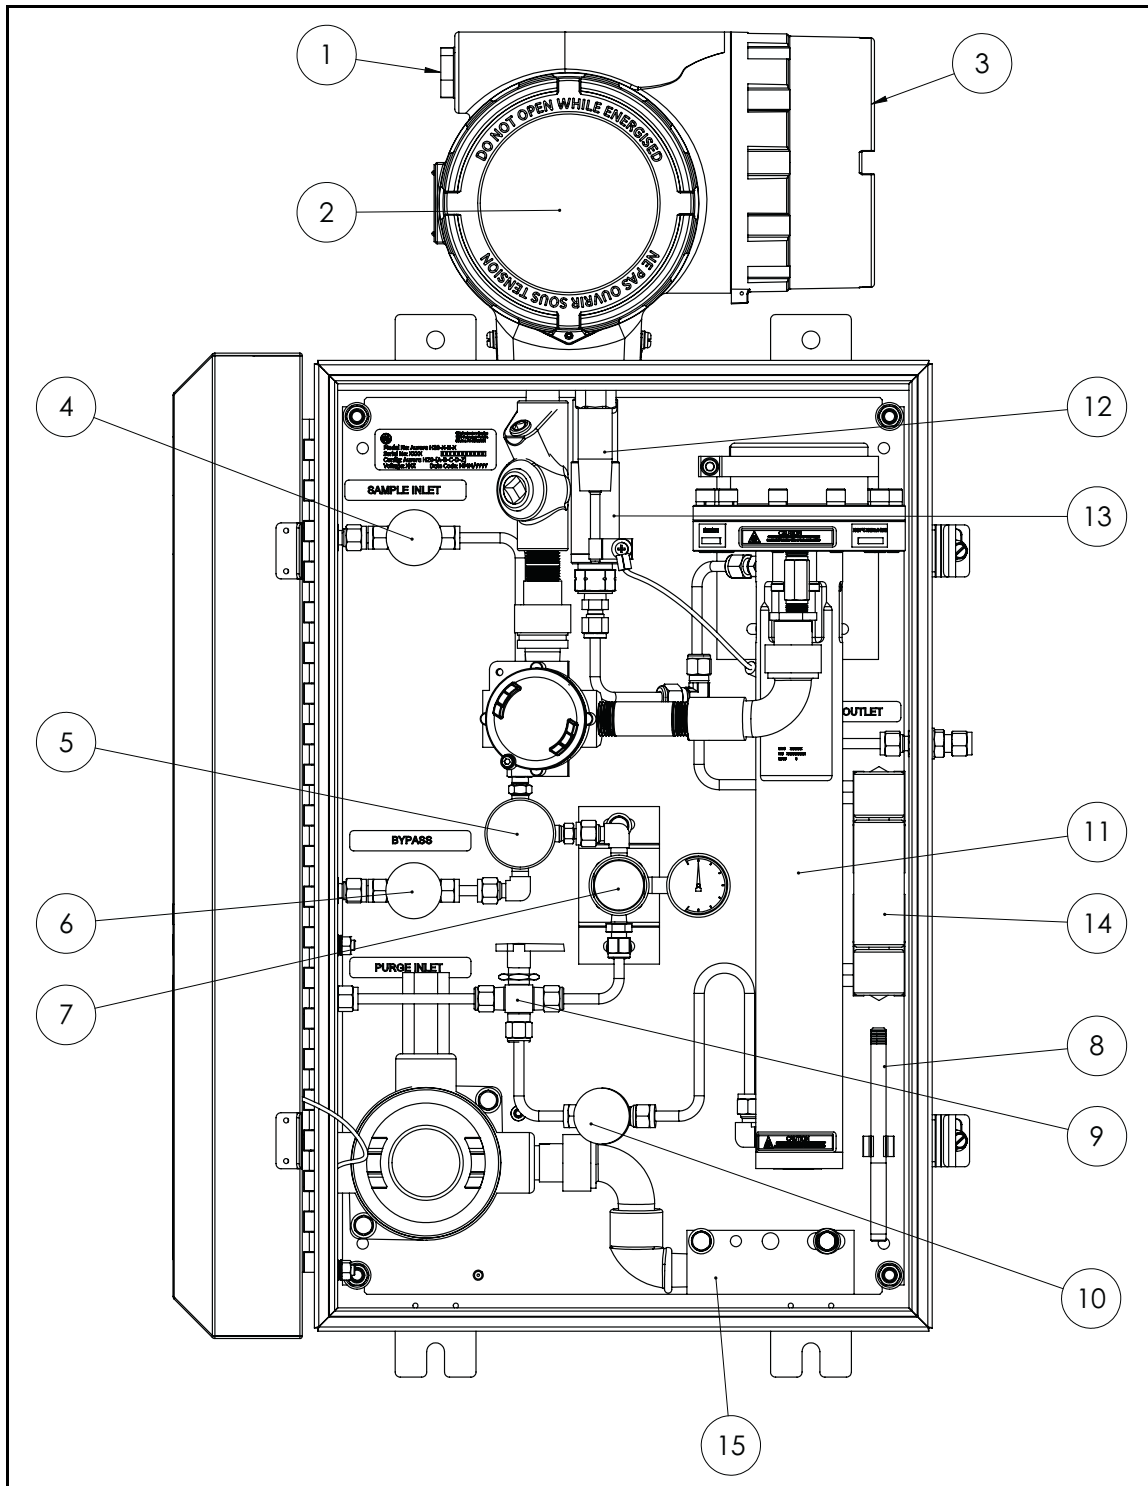
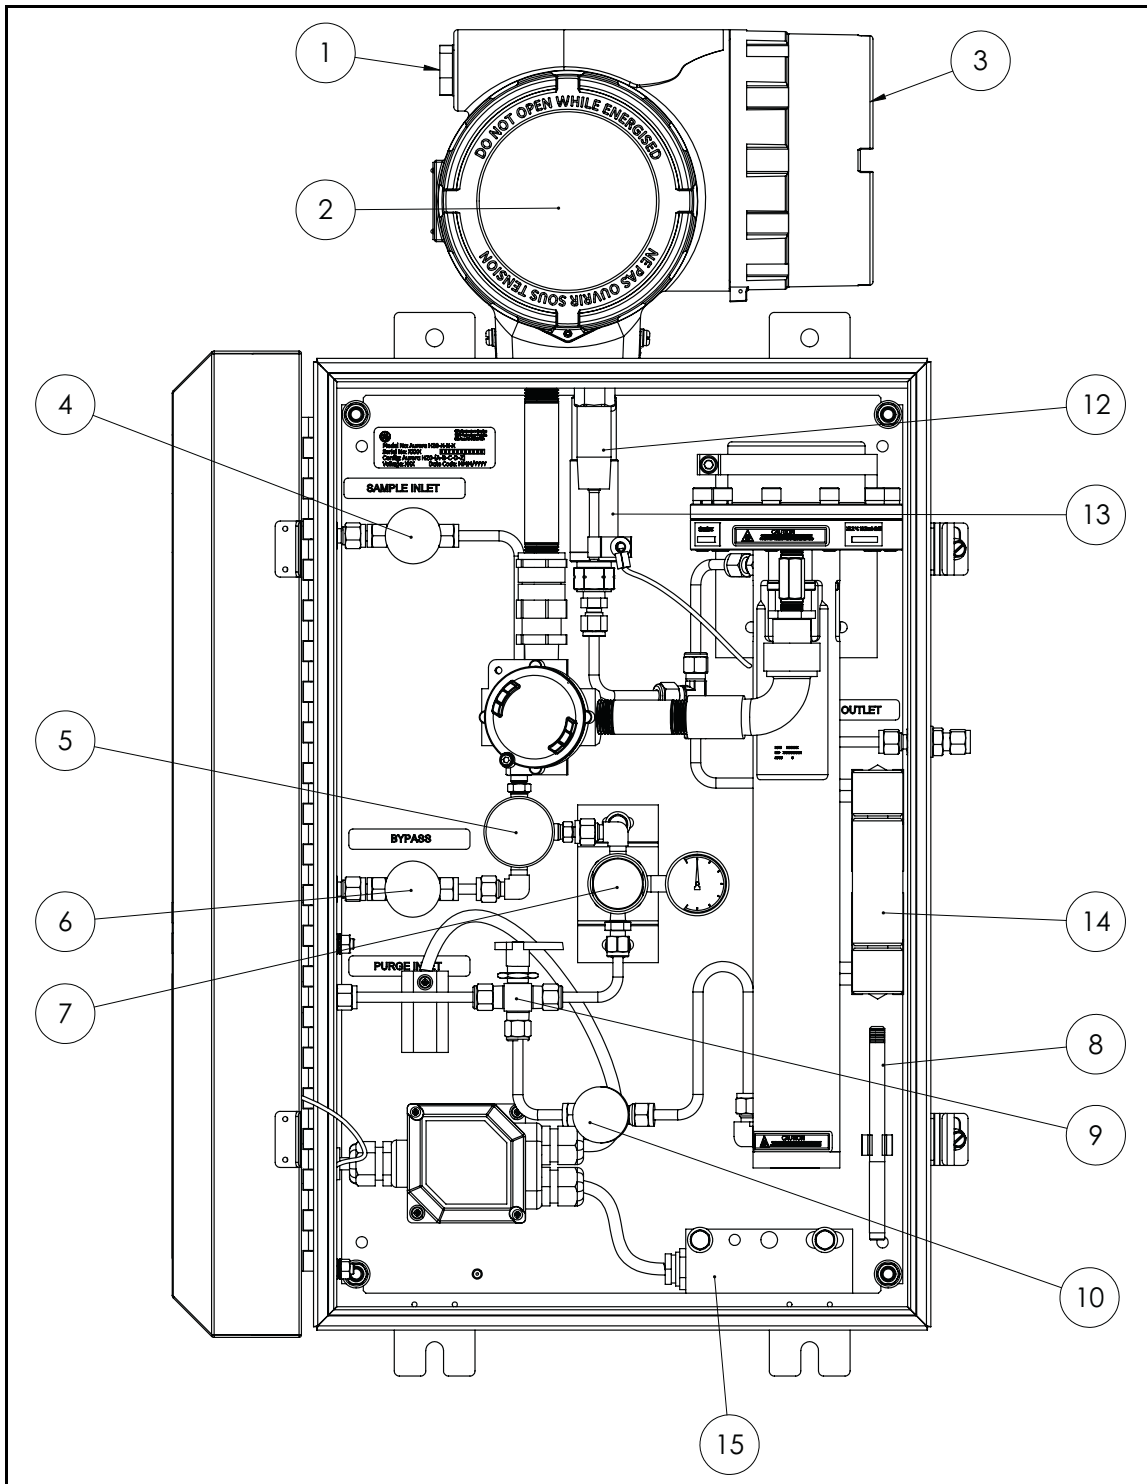

Figure 2: Aurora H2O System Assembly with Optional USA/CAN Heater
Figure 3: Aurora H2O System Assembly with Optional EU/ATEX Heater
**Note:** Refer to Figure 2 below and Table 1 on page 6 to identify your Aurora components.
**Note:** Refer to Figure 3 below and Table 1 on page 6 to identify your Aurora components.
**Note:** Refer to Table 1 below and either Figure 2 on page 4 or Figure 3 on page 5 to identify your Aurora components.